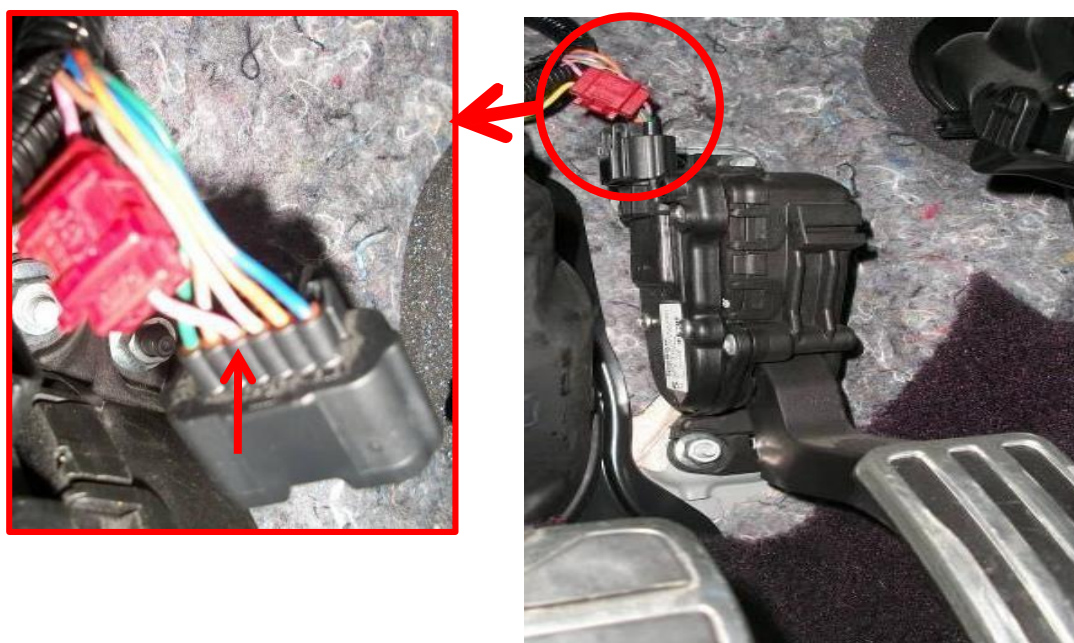

Figure 2-2
3. Look for the accelerator pedal signal and connect the yellow cable (signal) across the terminal. (Figure 2-2)